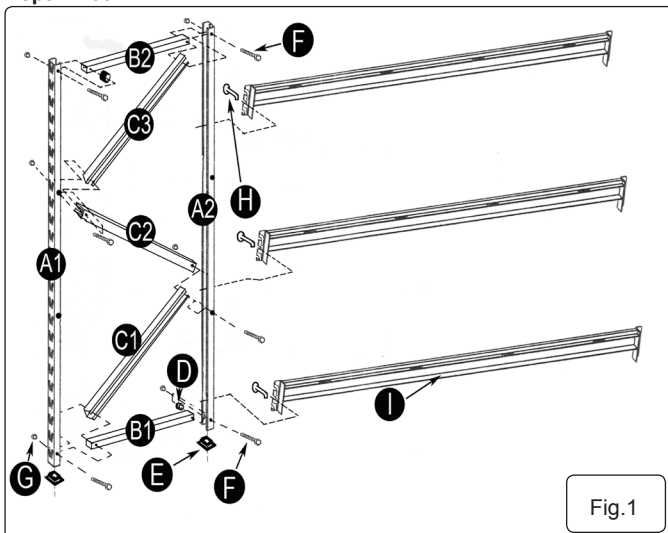

Fig.1
Carefully unpack the product and check the contents (fig.1) against the list below. Should any items be missing or damaged, immediately contact your Sealey stockist.
4.2 Assembling the end frames. Refer to Fig.1.